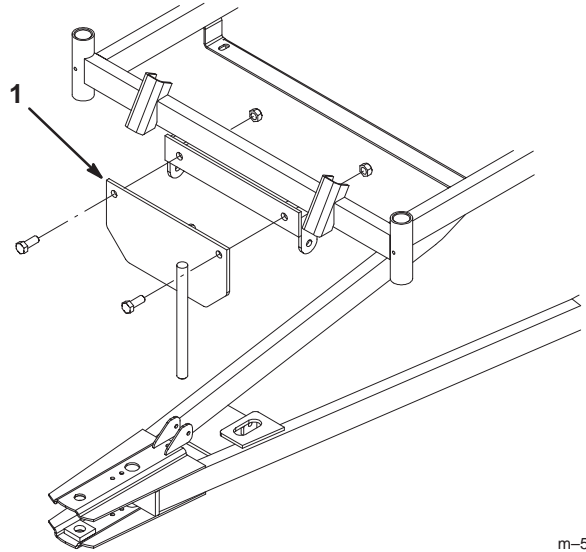

Figure 16
3. Remove the pulley plate assembly (Fig. 16).